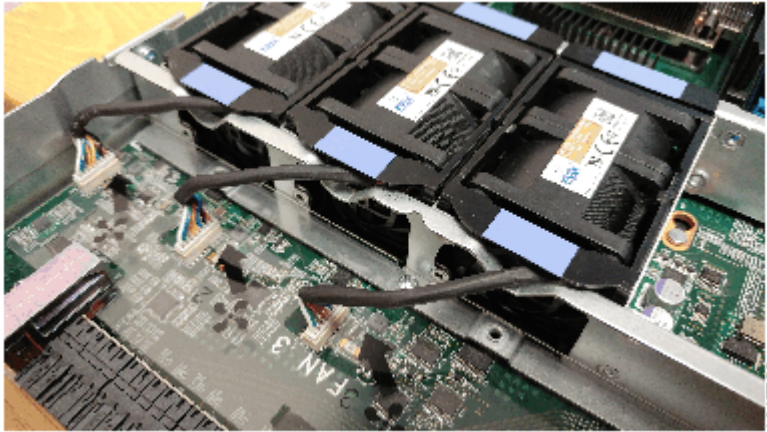

Figure 46. Aligning the cable connector
8. Install the replacement fan module into the vacant fan slot. The cable must face toward the canister front. Be careful to ensure the connecting cable passes over the air dam at the V-shaped indent, as shown in Figure 46 on page 84. Ensure that the cable is not caught under the fan module.